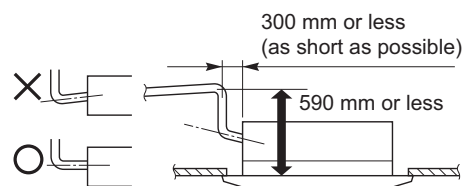

Fig. 2-136
- If it is necessary to increase the height of the drain pipe, the pipe can be raised a maximum of 590 mm from the bottom of the ceiling. Do not raise it any higher than 590 mm, as this could result in water leaks. (Fig. 2-136)